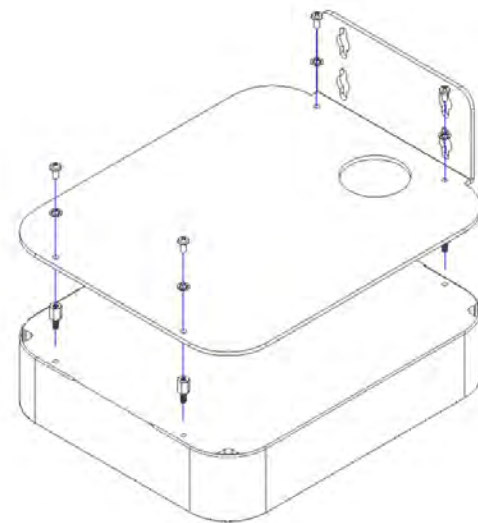

Figure 1
Step 2 – Fasten the enclosure to the bracket using the provided M4x0.7 x 10mm screws with lock washers. The standoffs may be used for additional air flow between the enclosure and bracket (Figure 1).